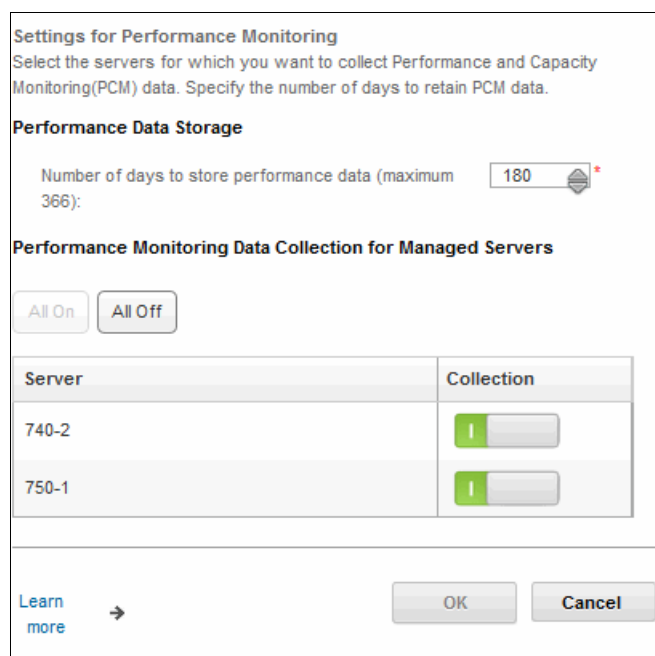

Figure 7-2 Settings for Performance Monitoring window
2. Enable or disable performance monitoring from the Settings for Performance Monitoring window (Figure 7-2).